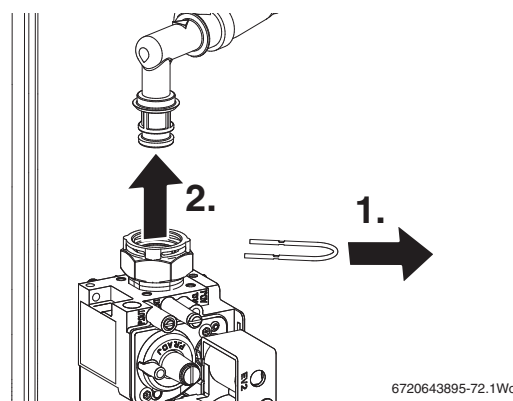

Fig. 58 Gas valve connection
1. Refer to figure 58 and remove the clip from gas valve outlet.